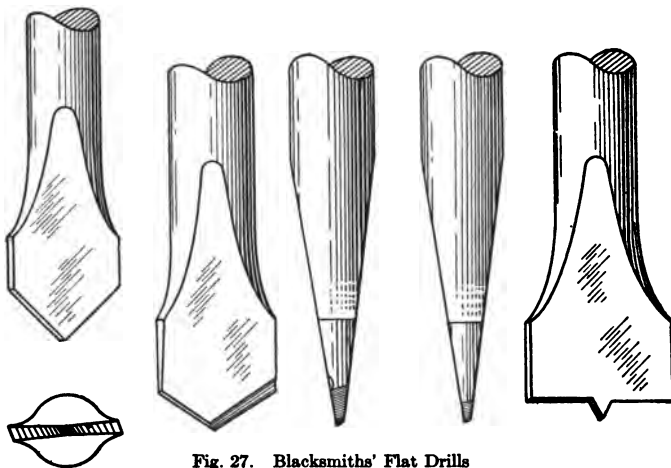

Fig. 27. Blacksmiths' Flat Drills
**Flat Drills.** The flat drill, Fig. 27, is the simplest and, incidentally, the oldest type; until the invention of the twist drill, the flat drill was used for all drilling work. It is made from a piece of round stock, on the end of which are forged thin lips which are ground with three cutting edges, the edges being on the V-shaped end of the tool. For the performance of accurate work the flat drill is a poor tool, its field being in rough drilling of extremely hard metals. As a deep hole drill it is useless because it does not free itself of chips. For